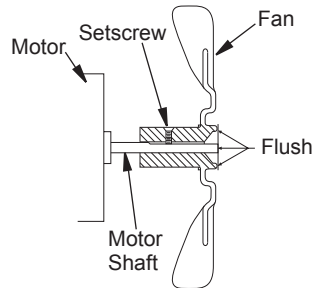

Figure 8 - Fan Cross Section
6. Replace fan on motor shaft. Place fan hub flush with end of motor shaft (see Figure 8).